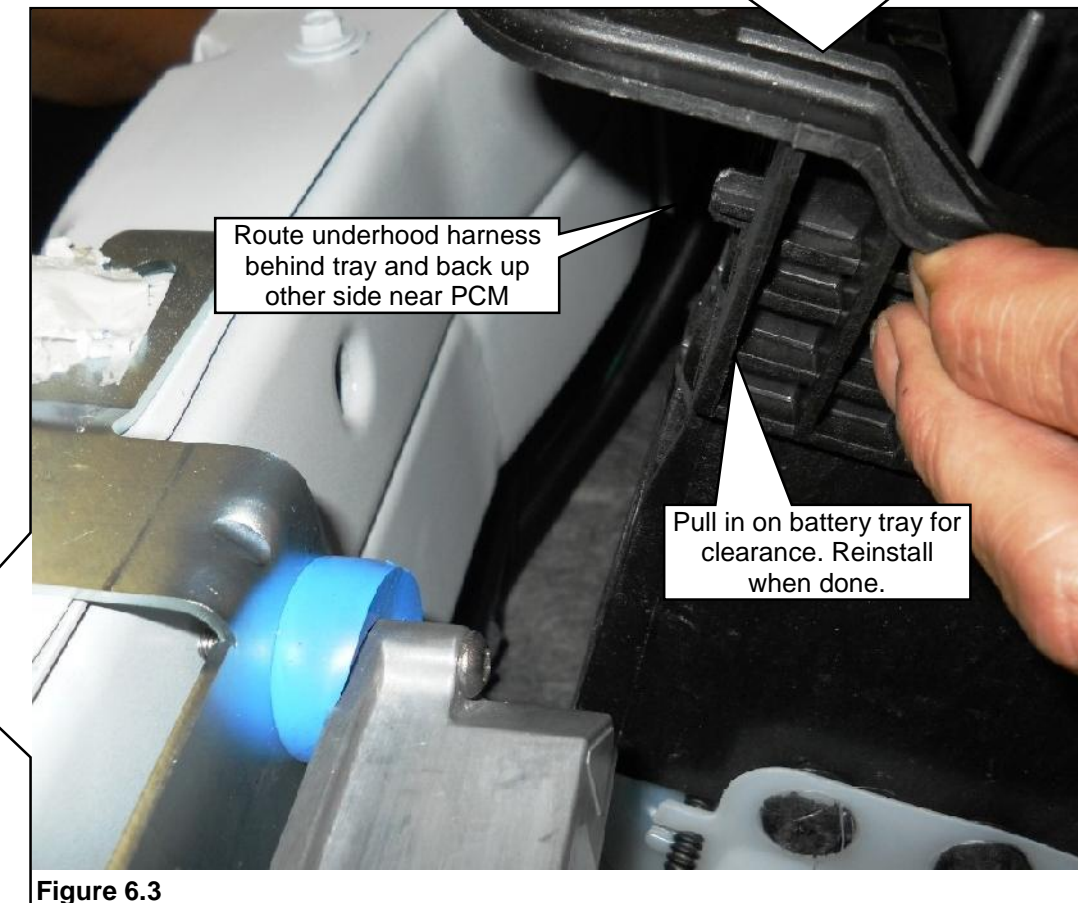

Figure 6.3
6. Pull in on the battery tray and route the underhood harness behind the tray and then up the back side of the tray to the right of the PCM. Tuck the harness under the inner fender. **Figure 6.3.**
13. Reposition the battery tray, install the five bolts and tighten to secure. Install the fender bolt to secure both the top of the battery tray and the rear end of the SRM bracket. **Figure 6.3.**